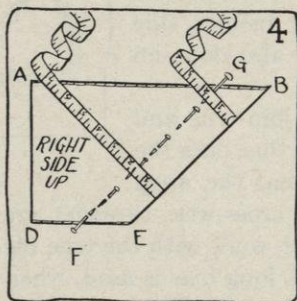

FIG. 4.
- (1) To do this, use your tape measure exactly as shown in Figure 4. The end of the tape measure must be even with the bias edge or, in other words, the tape measure must be at right angles to the cut bias edge.
- (2) Put a pin in each place that you measure as is shown in Figure 4.
- (2) If *E F* and *B G* are not exactly alike, move the pin at point *F* toward point *D*, so that they will measure alike. This is necessary because, when measuring at right angles from point *E*, as shown in Figure 4, point *F* extends beyond the cut bias edge *B E*, and unless you have a very good eye for measuring straight, you might run your strip off a bit. Unless *B G* and *F E* measure exactly alike, you will not be able to join your strips correctly.